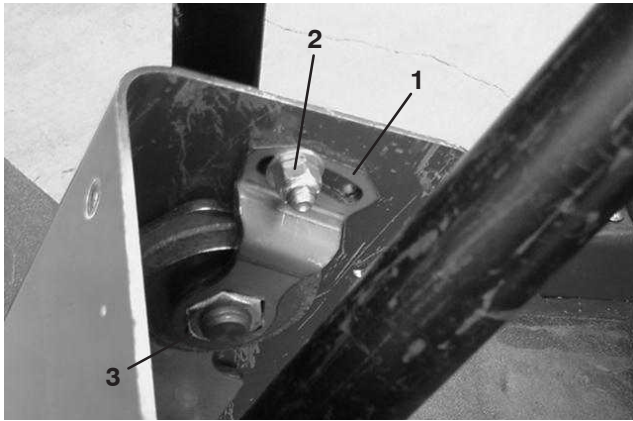

Figure 51
2. Slide cover up steering shaft to expose pivot bracket (Fig. 51).
3. Loosen small nut, rotate pivot bracket until it tightens large nut below (Fig. 51). Retighten small nut.